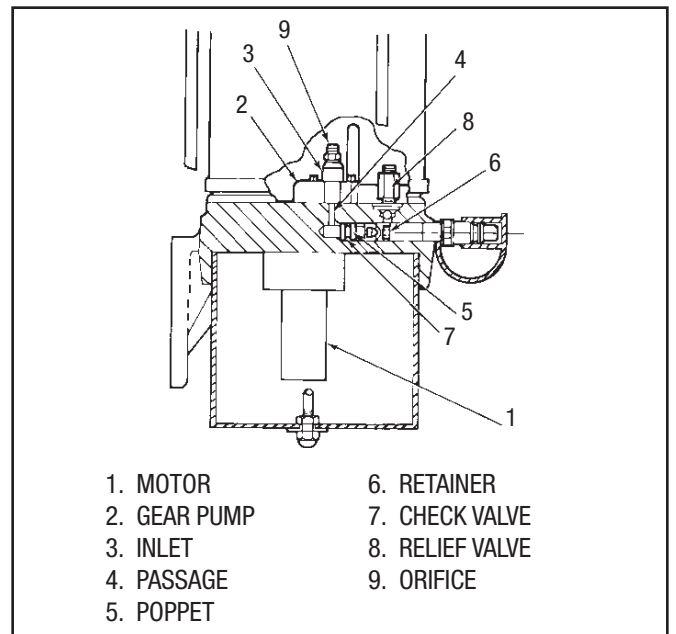

Figure 9. Electric Motor Pump Operation
Figure 9 portrays the pump in the “at rest” position. When the motor (1) is energized, the gear pump (2) runs, drawing in lubricant through inlet (3). Pressure builds in passage (4) moving the poppet (5) to the right, sealing off the retainer (6) opening to the tank. As the pump continues to run, pressure exceeds the check valve (7) resistance. The check valve opens allowing lubricant to flow through internal porting to the lube outlet and injector distribution system. After 1250 psi (86 bar) is obtained, the relief valve (8) vents excess flow back to the tank maintaining constant pressure.